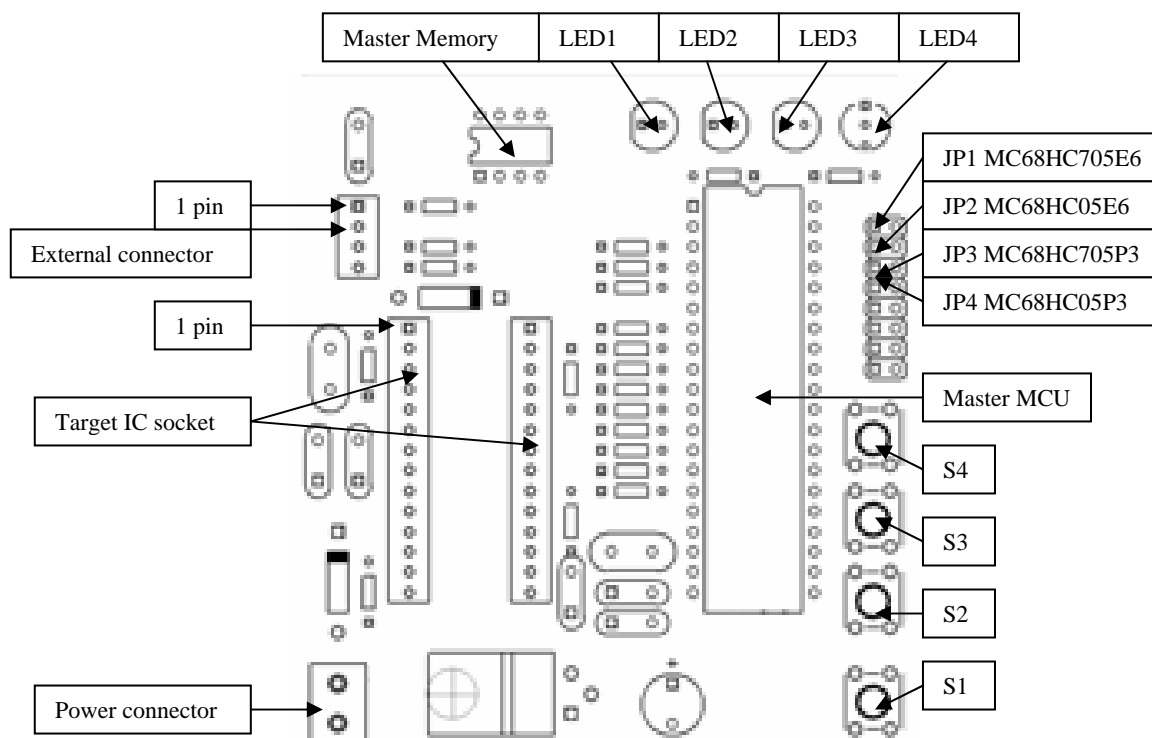

Figure 1.
To understand E6 Copier components meaning see Figure 1 and Table1. To install and use the E6 Copier, follow these steps:
- Insert target IC for example, MC68HC705E6 into 28 pins on board socket (see Figure 1) Make sure JP1 mounted, JP2 and JP3 left free
2. Insert programming adapter into Target IC socket (see Figure 1) according with 1-pin orientation